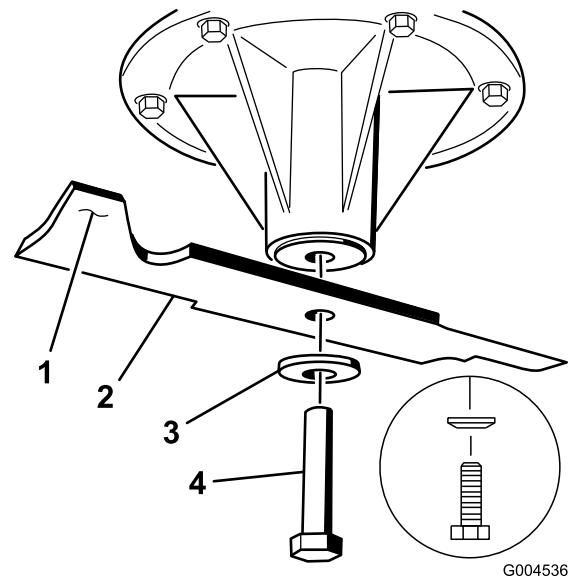

Figure 57
2. For 48 inch mower decks, remove the blade bolt, curved washer, and blade from the spindle shaft (Figure 57).
3. If the blade stays in a horizontal position, the blade is balanced and can be used. If the blade is not balanced, file some metal off the end of the sail area only (Figure 57)
1. Install the blade onto the spindle shaft (Figure 57).
Important: The sail part of the blade must be pointing upward, toward the inside of the mower to ensure proper cutting (Figure 57).
2. For 48 inch mower decks, install the blade, curved washer, and blade bolt (Figure 57).